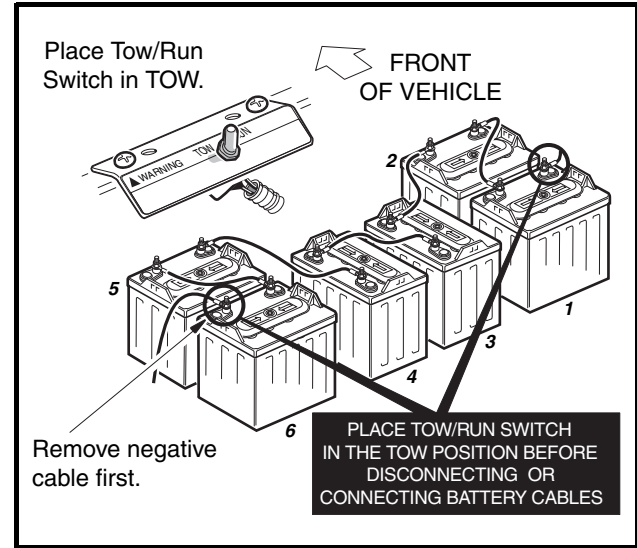
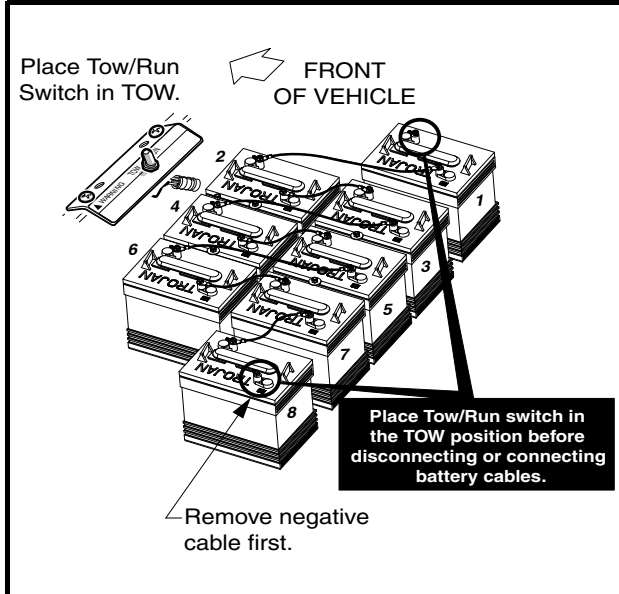

Figure 1-2 IQ System Vehicle
Figure 1-3 Turf 2/Carryall 2 IQ Plus Electric Vehicle and Carryall 6 Electric Vehicle
- To avoid unintentionally starting the vehicle, disconnect the batteries as shown (Figure 1-2, Page 1-4 or Figure 1-3, Page 1-4).
3. Disconnect the batteries, negative (–) cable first, as shown (**Figure 1-2**) or (**Figure 1-3**).